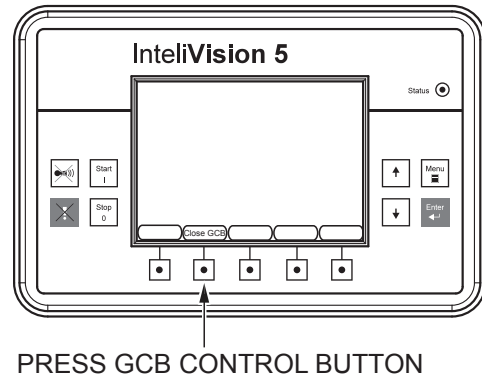

Figure 27. Generator Circuit Breaker (Closed)
7. Press the GCB control button on the controller (Figure 27) to close circuit breaker.